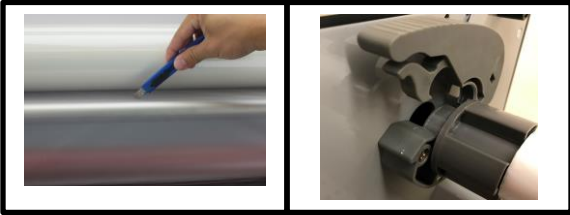

Figure 13
Step 2: If reloading film, cut the remaining top and bottom film webs between the supply rolls and the idler bars (Fig 13)
Step 3: **Pinnacle EZload** Raise the four film levers on the FILM SADDLES and remove the old rolls of film. (Fig. 13)